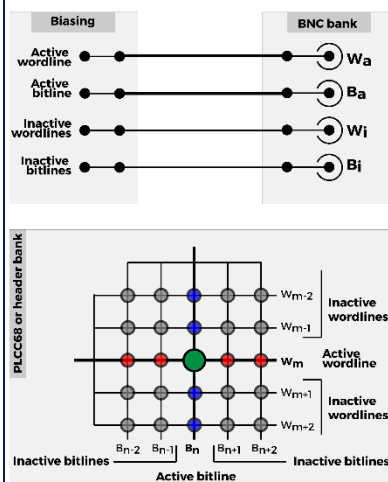

Figure 6: Live: External BNC session mode board connectivity.
2. **Live: External BNC** - in this mode of operation your device under test should be connected to the instrument through the BNC terminals. The board applies stimuli and reads out data exclusively through the BNC terminals (Figure 6). In the Crossbar Panel the target device appears as address [W=1, B=1]. **WARNING:** Please ensure no package is connected in the PLCC68 holder or through the header bank.